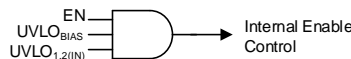

图 45. Simplified Turnon Control
Controlling when a single power supply turns on can be difficult in a power distribution network (PDN) because of the high power levels inherent in a PDN, and the variations between all of the supplies. 图 45 和 表 2 show how the LDO turnon and turnoff time are set by the enable circuit (EN) and undervoltage lockout circuits ($UVLO_{1,2(IN)}$ and $UVLO_{BIAS}$).